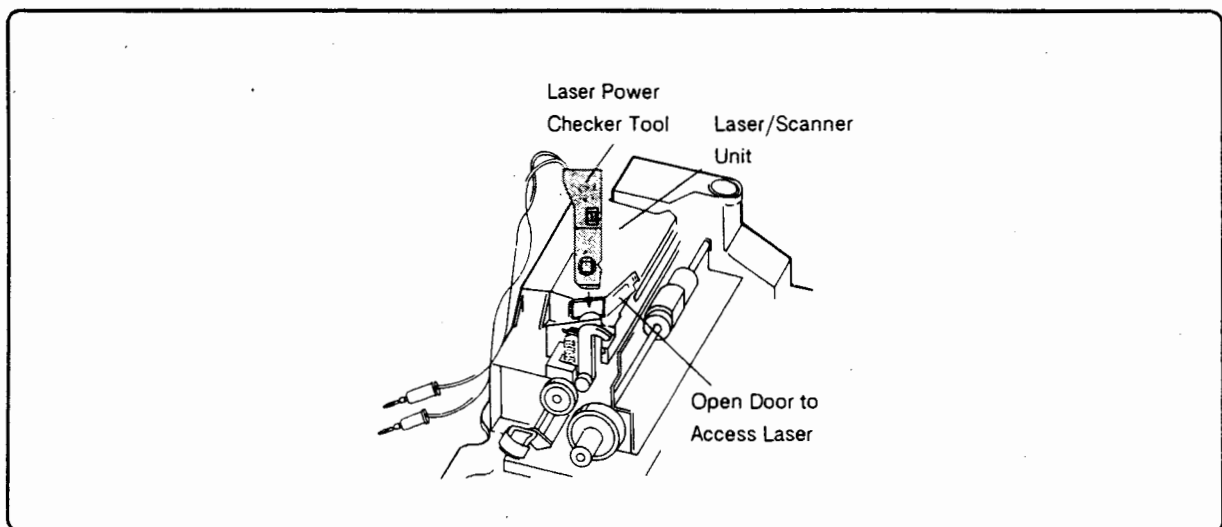

Figure 7-23. Installing Laser Power Checker Tool
5. Open the plate covering the access hole for the laser power checker tool on the Laser/Scanning Assembly. Install the laser power checker tool into the opening (see Figure 7-23).
9. With the laser tool installed (see Figure 7-23), the interlock switches defeated, and the voltmeter connected, perform a self test and verify the laser output.